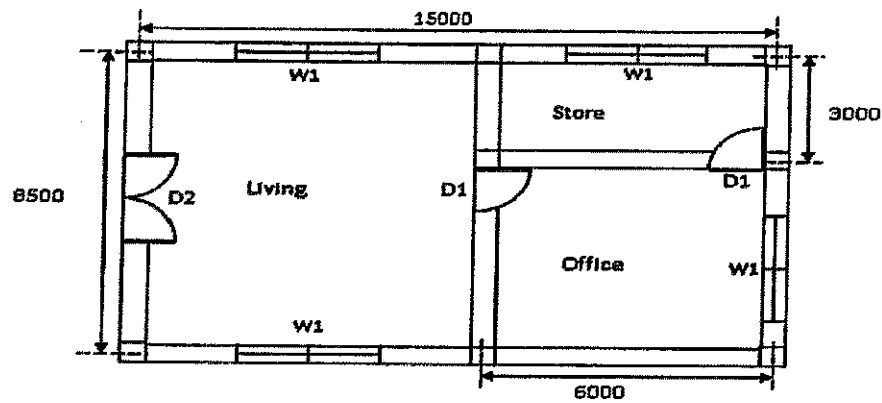

Figure B1(a) : Floor plan / *Rajah B1(a) : Pelan lantai*
- (a) Based on **Figure B1(a)**, calculate the cost of the building project by using the Floor Area Method. Data from the previous project is RM350/m². All the dimension is measured from centre to centre of the wall. Wall thickness is 230mm.